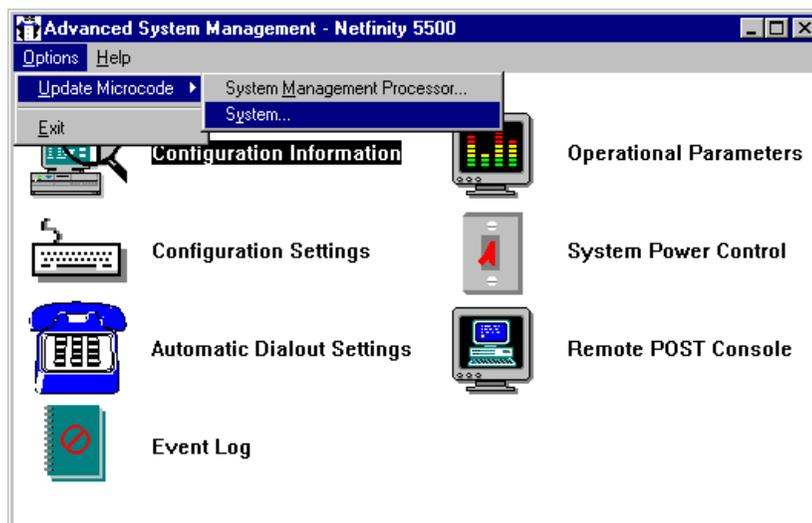

Figure 201. Starting the BIOS Update Process
1. From the Advanced System Management window, click **Options -> Update Microcode -> System** as shown in Figure 201: